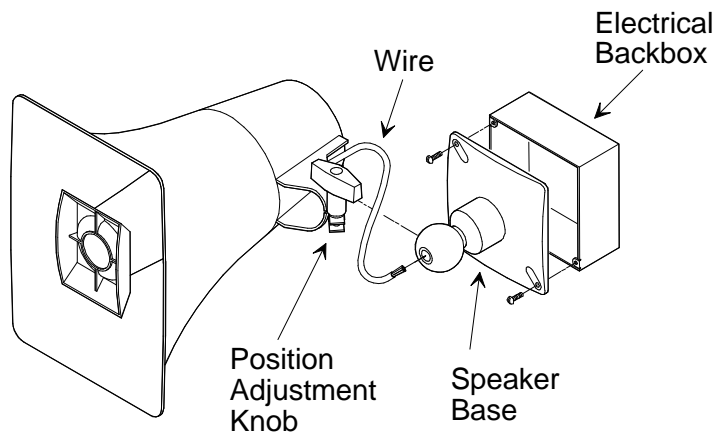

Figure 2 - Mounting to an Electrical Backbox
- Connection to an electrical backbox is accomplished by channeling wire through the ball of the base and making appropriate connections. The base has holes punched for a double-gang square box, but by punching out additional knockout holes, the base can be mounted to a single-gang or octagon box (see Figure 2).